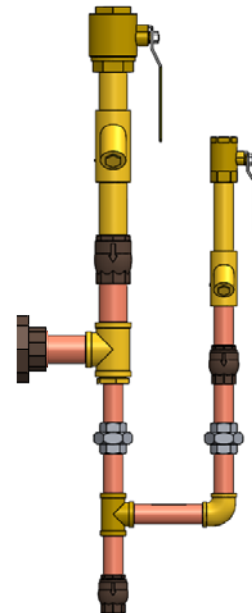

Figure 5: Sub-Section #2
- Sub-Section #2 – Cold/Recirculation (*see Figure 5*)